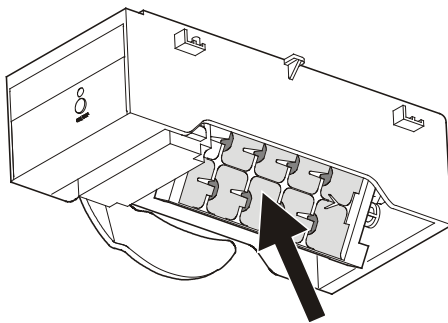

Figure 21
- After this the Ice Maker tray (**Figure 21**) must be emptied. Refer to chapter "Ice Maker at vacations".
In case of longer vacations, the Ice Maker tray (arrow in **Figure 21**) should be emptied.
When the interior temperature appears in the display, the tray is in the down position (**Figure 21**) and the Ice Maker is turned off automatically.